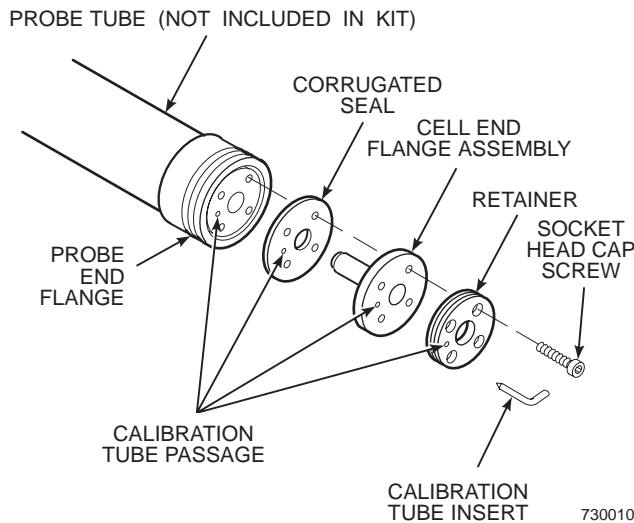

Figure 3-3. Cell Replacement Kit
- c. Loosen 4 socket head screws from retainer. Pull off retainer and calibration tube insert, Figure 3-3. Discard calibration tube insert.